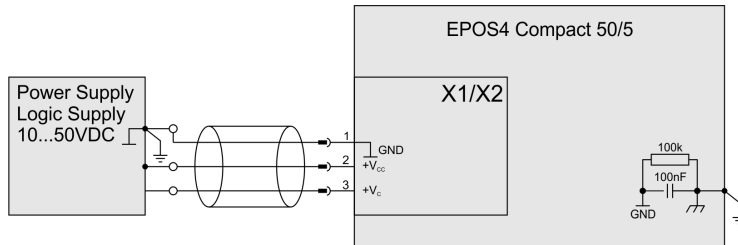

Figure 5-62 Power & logic supply
**Power supply** & optional logic supply . . . . . Figure 5-62
**Power supply & optional logic supply** ..... Figure 5-62